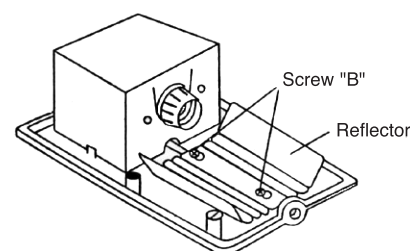

Figure 2
3. Remove reflector by loosening two screws (B Figure 2) to allow the reflector to slide upward until the keyholes in the reflector release the screws.
5. Replace reflector; secure it with screws. (B Figure 2).